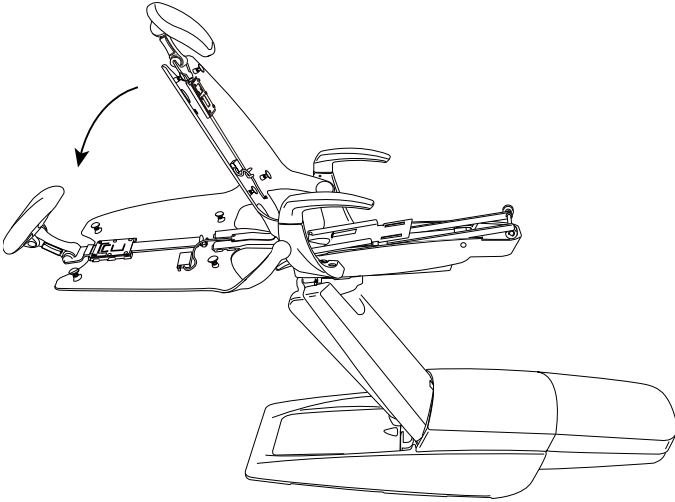

Figure 3. Dropping the chair back into the lowest position
- 3 Drop the chair back into the lowest possible position (see Figure 3).